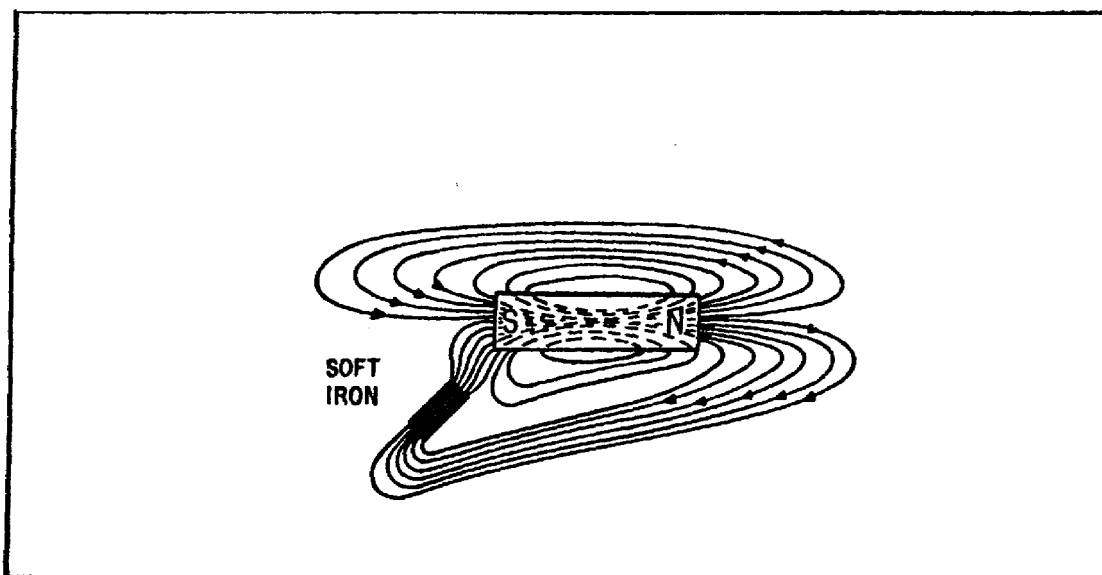

FIGURE 7. EFFECTS OF A MAGNETIC SUBSTANCE IN A MAGNETIC FIELD.
(5) *Magnetic Shielding.* There is no known INSULATOR for magnetic flux. If a nonmagnetic material is placed in a magnetic field, there is no appreciable change in the magnetic flux; that is, the flux penetrates the nonmagnetic material. For example, a glass plate placed between the poles of a horseshoe shaped magnet. will have no appreciable effect on the field, although glass itself is a good insulator in an electric circuit. If a magnetic material (for example, soft iron) is placed in a magnetic field, the flux may be redirected to take advantage of the greater permeability of the magnetic material, as shown in figure 7 on the following page. Permeability is the quality of a substance which determines the ease with which it can be magnetized.